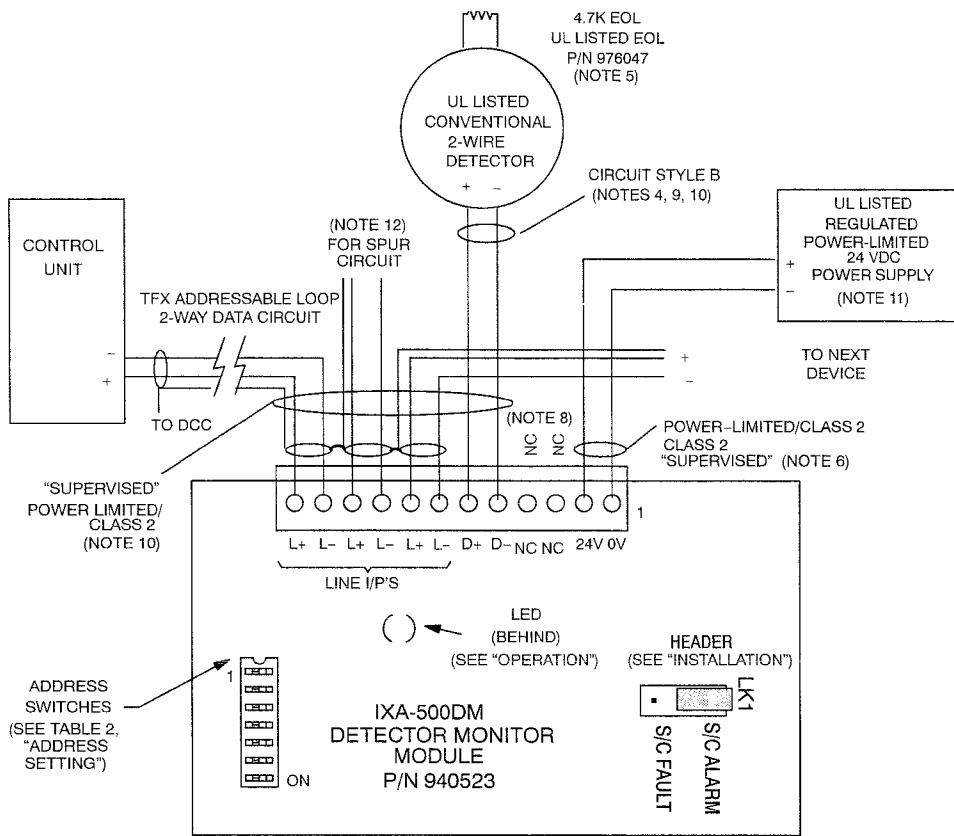

Figure 3. IXA-500DM Wiring. All circuits and connections are power limited/Class2.
**Wiring Notes (See Figures 3 and 4):**